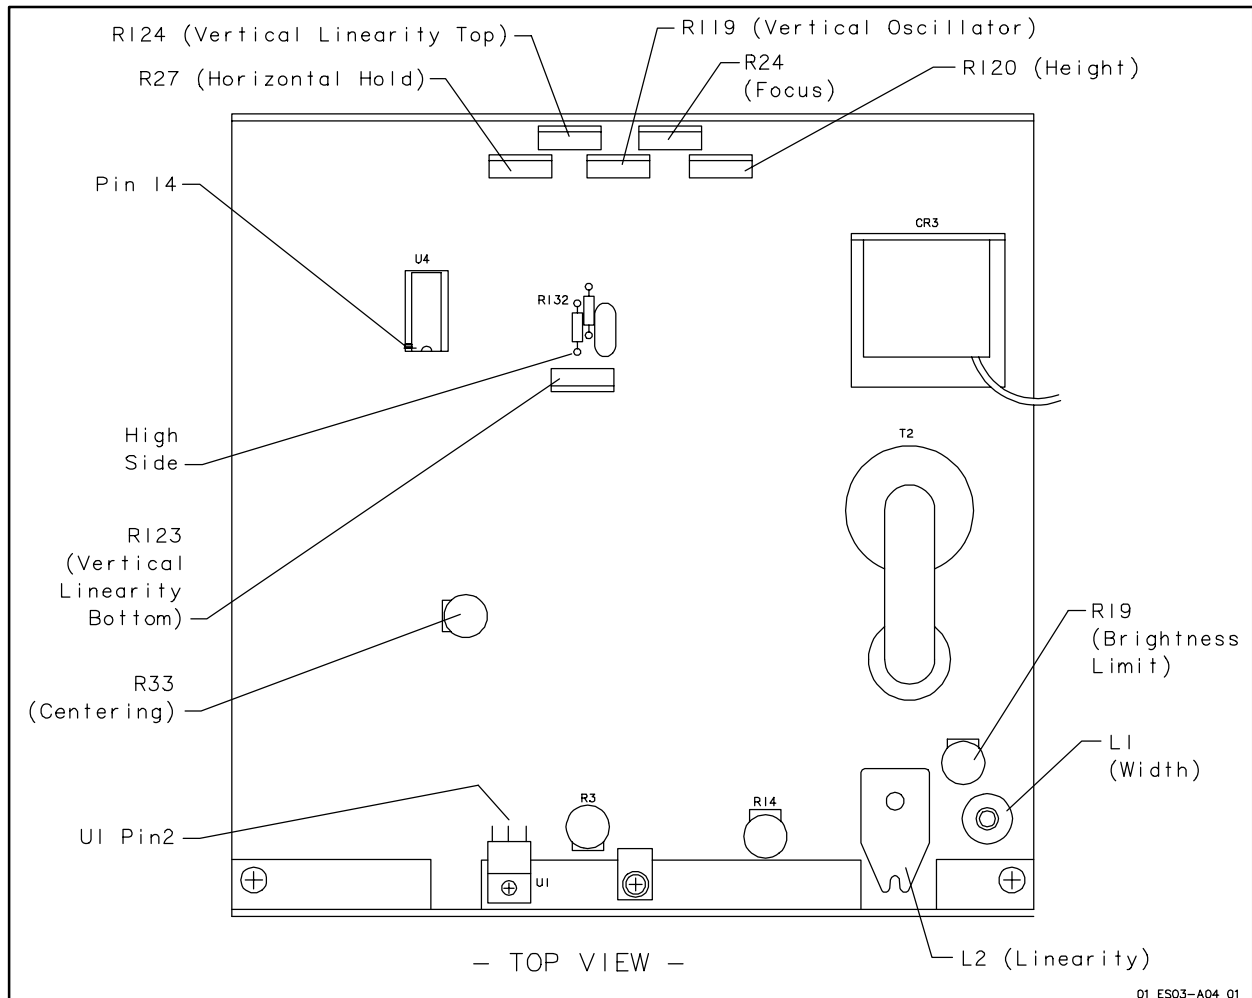

Figure 3-4. Old-Style Monitor PCB Adjustment Points
3-5 Old-Style Monitor Adjustments (Figure 3-4, Figure 3-5)
NOTE: The old and new style monitors are easily identified by removing the monitor cover and comparing the PCBs with Figure 3-4 and Figure 3-6.
3. Connect oscilloscope to high side of R132 (**Figure 3-4**).